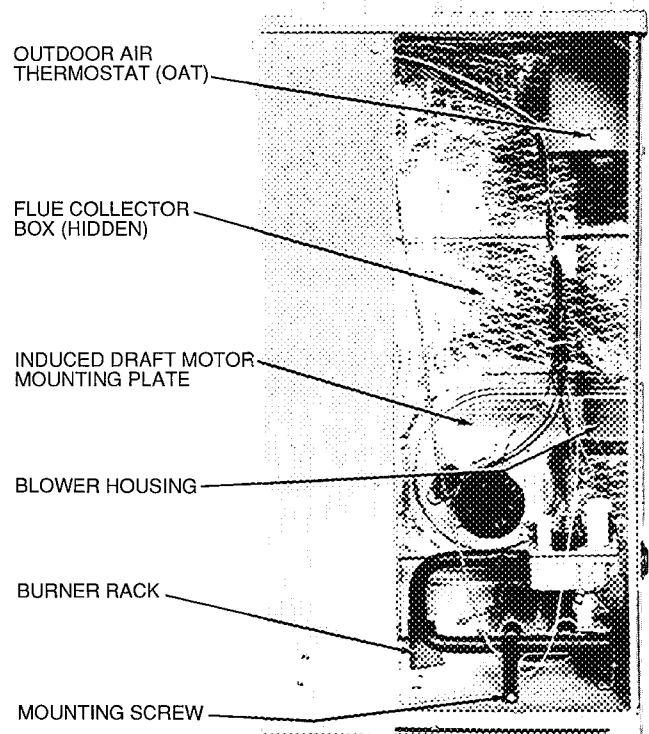

Fig. 24 — Blower Housing and Flue Collector Box
2. Remove the 3 screws holding the blower housing to the flue collector box cover. (See Fig. 24.)
3. Remove the 12 screws holding the flue collector box cover (Fig. 24) to the heat exchanger assembly. Inspect the heat exchangers.
2. Remove the 7 screws that attach induced-draft motor mounting plate to blower housing. (See Fig. 24.)
3. Slide the motor and blower wheel assembly out of the blower housing. Clean the blower wheel. If additional cleaning is required, continue with Steps 4 and 5. (See Fig. 24.)
7. Remove the mounting screw that attaches the burner rack to the basepan. (See Fig. 24.)
8. Slide the burner rack out of the unit. (See Fig. 24 and 27.)